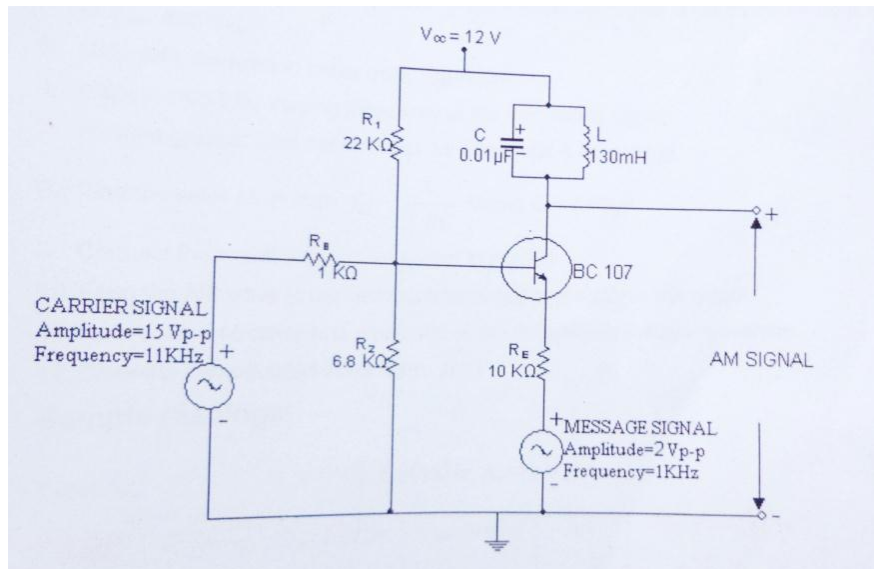

Fig. 1. AM Modulator
1. The circuit is connected as per the circuit diagram shown in Fig.1.